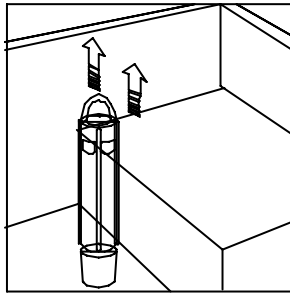

Fig.11
- Remove the overflow tube to empty the washing tub (Fig.11).